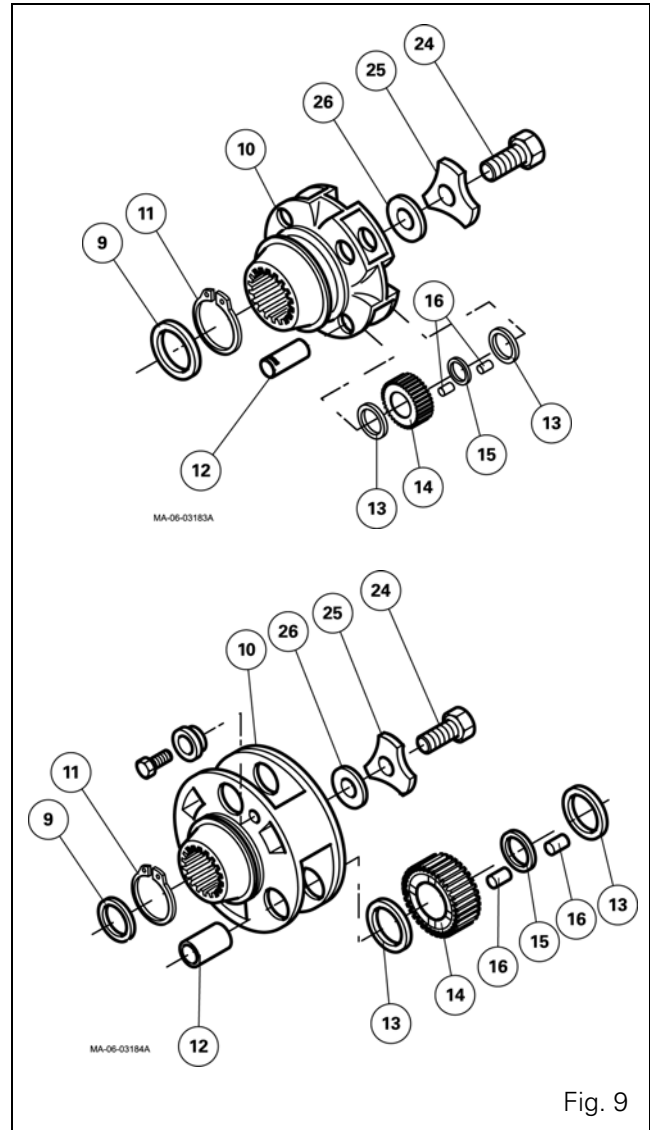

Fig. 9
38. Remove screw (24).
39. Take off the lock washer (25) and the shim(s) (26) (Fig. 9).
40. Remove the planet carrier (10) (Fig. 9 depending on model).